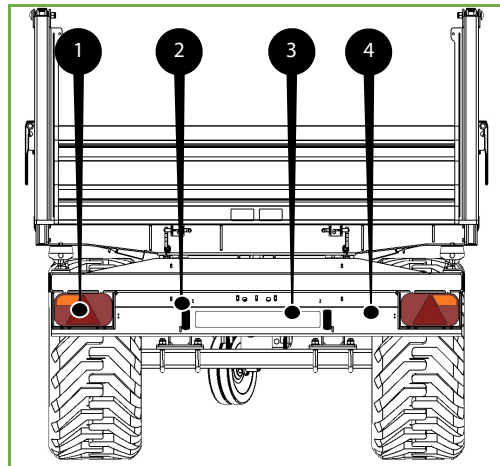

Figure 2-11: Lighting and licence plate
- Tipping trailer rear side (two rear lights [1] with brake light, direction indicator and licence plate lighting). Please refer to Figure 2-11.